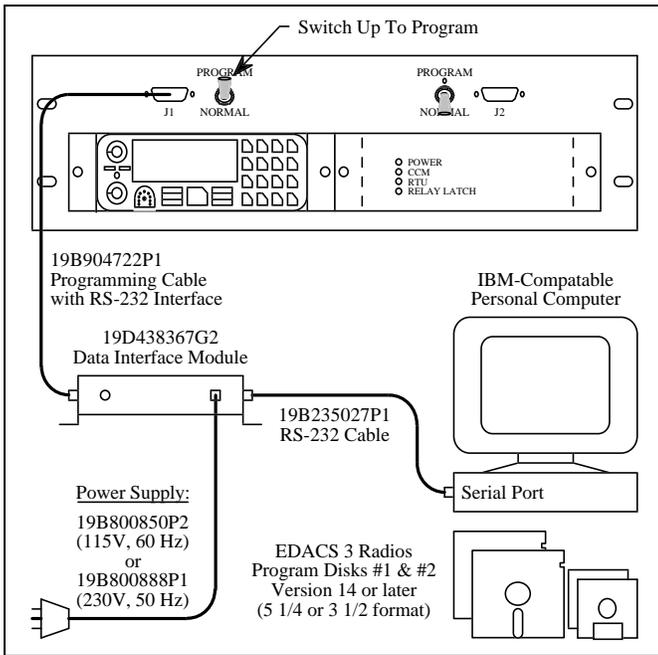

Figure 2 - Programming Setup
- For the RTU, connect the radio programming equipment to J1 on the front of the Orion Radio Shelf as shown in Figure 2. For the CCM, connect to J2.
- For the RTU, make sure that the message **PC PROG** is displayed on the front panel. If not, check to make sure that the programming equipment is connected as shown in Figure 2, and that the switch on the front of the Orion Radio Shelf is in the up or “PROGRAM” position. Then, try again to evoke the programming mode.